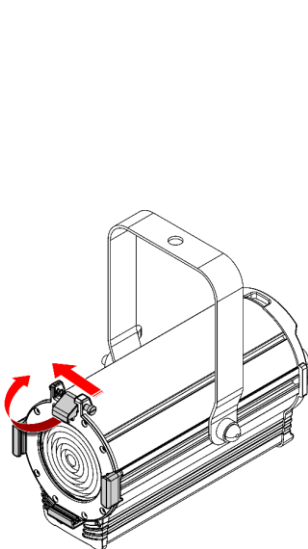

Fig. 09
- 01) Push the **spring-loaded screw (01)** and at the same time lift and flip backwards the **color frame clip (02)** (see Fig. 09).